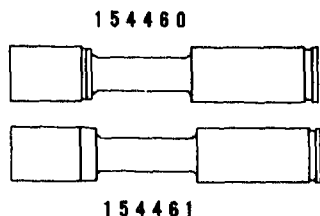

Fig. 507-11 MVS governor plungers
4. Check plunger to barrel clearance. It should be 0.0001/0.0005 inch. Oversize plungers are available. See Table 507-1 below. Fig. 507-11.